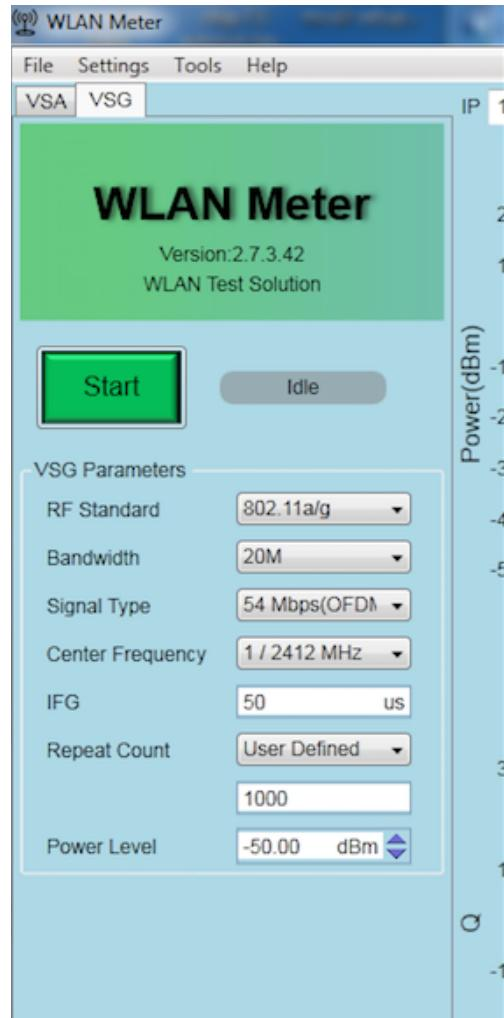

Figure 4-13. WT-200 Configuration for Test Environment #2
- Configure the VSG parameters in the WLAN Meter. Set **Signal Type** to 54 Mbps and define **Repeat Count** as 1000. WT-200 configuration for the test environment is shown in Figure 4-13.